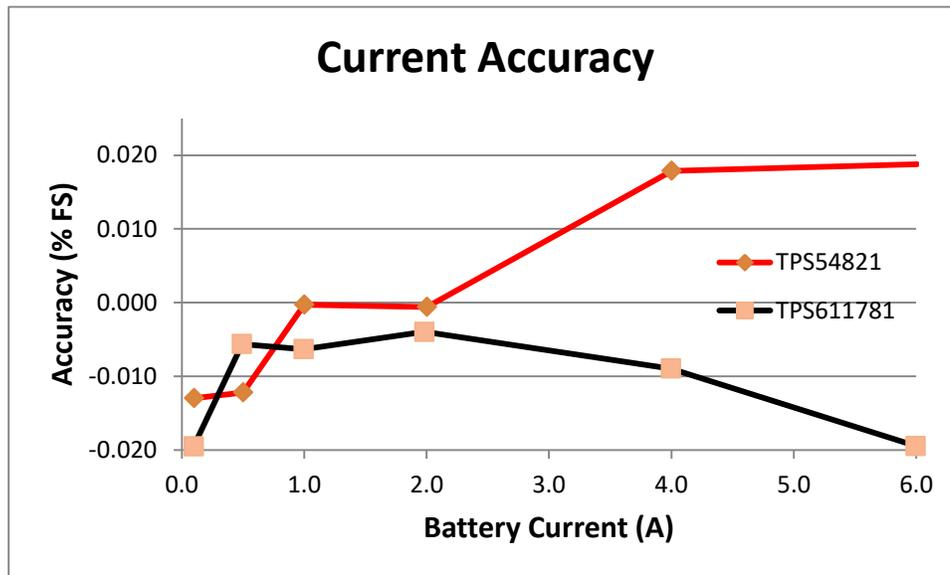

Figure 1: Battery Charge and Discharge Current Accuracy
The Figure 1 shows the full scale (FS) accuracy of the reference design at TPS611781 and TPS54821 operating condition.